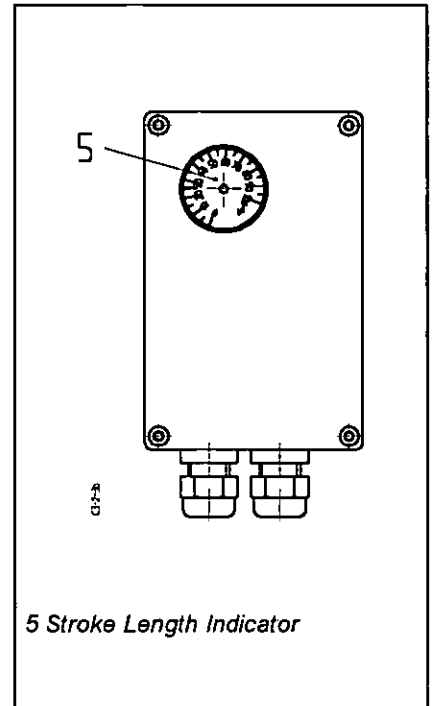

Fig. 3.2: Plan View of the Actuator
The stroke length in % is indicated on the stroke length indicator (5) (see Fig. 3.2).